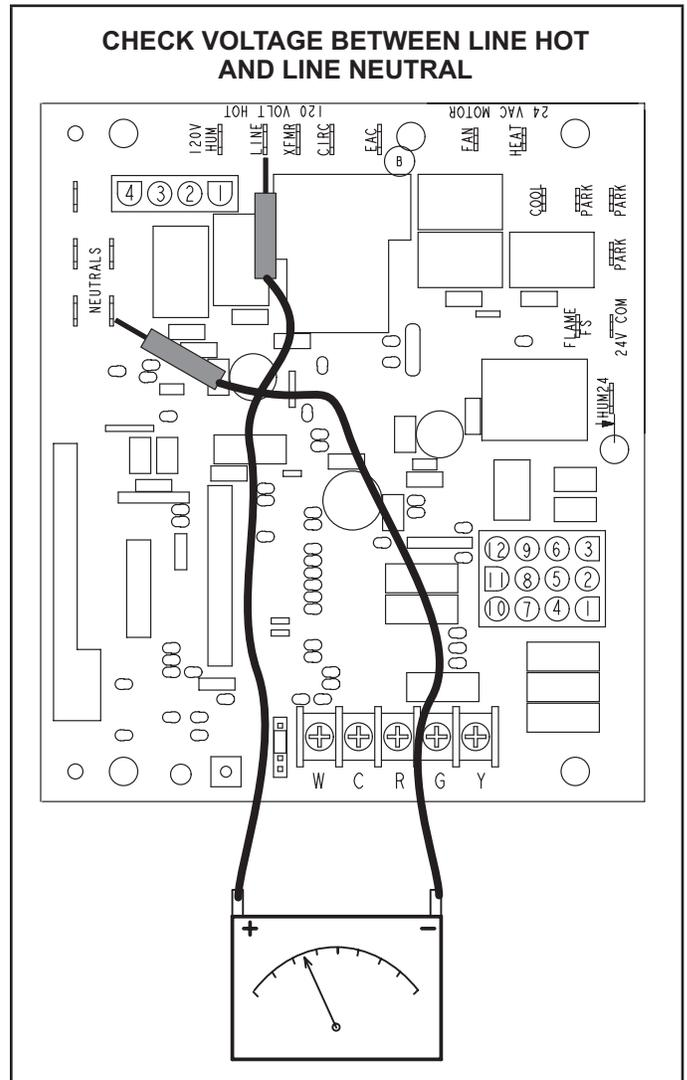

FIGURE 21
- 2 - In addition, measure the AC voltage from Line Hot to Line Neutral (spade terminals) on the integrated control. See figure 21. This voltage should be in the range of 97 to 132 Vac.
NOTE - Figures 21 and 22 are typical ignition control illustrations.